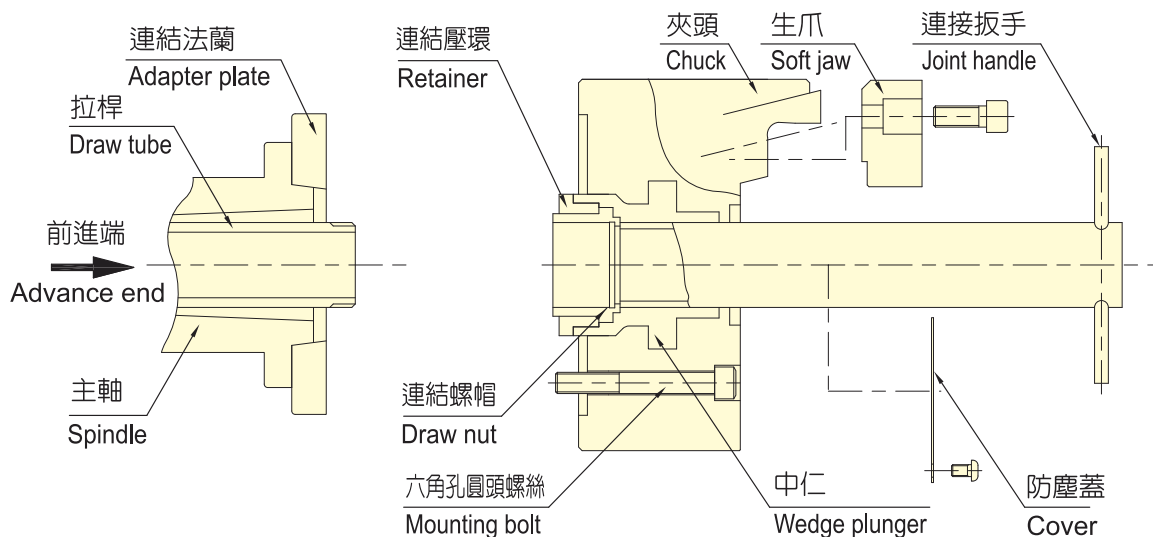

Fig.10
- (1) 將拉桿安裝於迴轉油壓缸
- (2) 將迴轉油壓缸安裝於主軸上 (迴轉油壓缸連接板)
- (3) 將夾頭安裝於拉桿 (參考 Fig.10)
- (1) Connect the draw bar to the cylinder.
- (2) Mount the cylinder to the spindle (cylinder adapter)
- (3) Connect the chuck to the draw bar. (Refer to Fig.10)